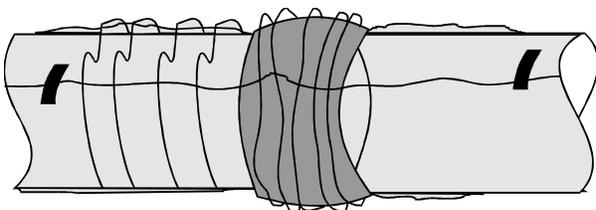

Figure 7
11. In the case of bolted gland or flanged joints, a pad of some four film thicknesses should be placed around the circumference of the joint before the sleeve is secured in position to provide protection over any sharp edges (Figures 7 and 8).